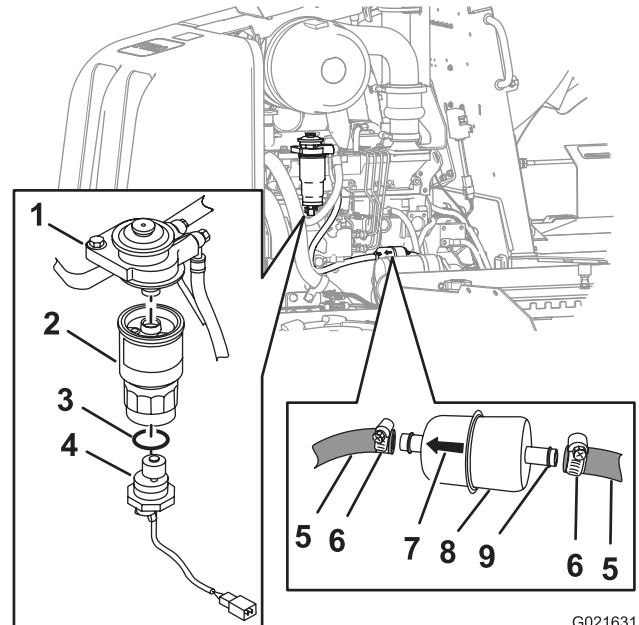

Figure 56
- C. Firmly grasp the secondary fuel-filter element, rotate the water sensor counterclockwise, and remove the water sensor (Figure 56).
- D. Firmly grasp the secondary fuel-filter element, rotate it counterclockwise, and remove it from the filter adapter (Figure 56).
- B. Align the new secondary filter element to the filter adapter (Figure 56).
- D. Slip the new O-ring over the water sensor (Figure 56).
- E. Align the water sensor to the bottom of the secondary fuel filter (Figure 56).
- F. Firmly grasp the secondary filter element, and rotate the water sensor clockwise until it is hand tight (Figure 56).
3. Loosen the hose clamps and separate the primary fuel filter from the fuel hoses (Figure 56).
4. Align the new primary fuel filter to the hoses with the arrow printed on the filter pointing forward (Figure 56).
5. Slip the hoses over the hose fitting of the primary fuel filter, and tighten the hose clamps (Figure 56).